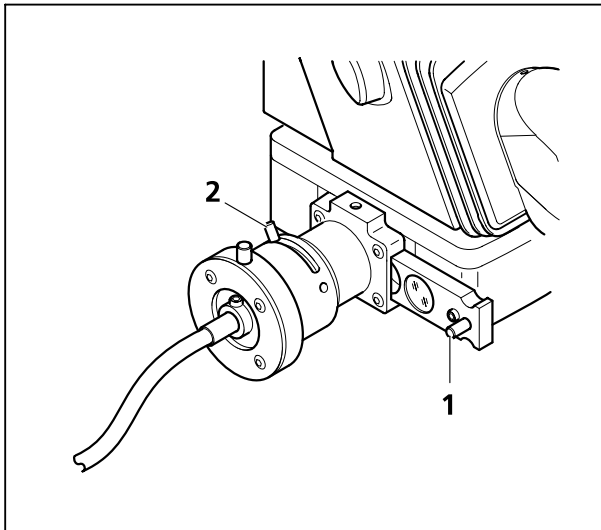

Fig. 42 Adjusting the vertical illuminator
Before swinging in another filter block, make sure to pull the slider (Fig. 42/1) on the vertical illuminator always to the frontmost position (blocking position).
1. Pull slider (Fig. 42/1) on PentaFluar vertical illuminator into the frontmost position (blocking position).
6. Open the iris diaphragm (Fig. 42/2) of the vertical illuminator completely by pushing the lever fully back.
- Pull slider (Fig. 42/1) on vertical illuminator into its frontmost position (blocking position).
- Push the slider on the PentaFluar vertical illuminator (Fig. 42/1) into mid-position (working position).
- Open the iris diaphragm (Fig. 42/2) of the vertical illuminator completely by pushing the lever fully back.